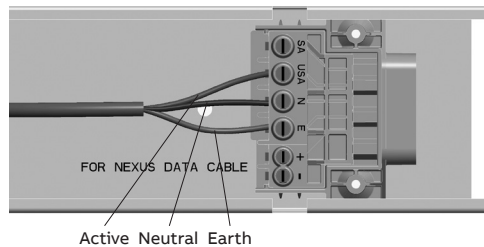

Figure 1: Quickfit terminal block connection
3. Run the cables in the ceiling or wall space as appropriate or surface mounted in conduit and through the cable hole into the bracket. Strip, connect and terminate the cables as indicated in figure 1. Ensure that the double insulation of the cable/s passes completely into the terminal block enclosure so that no single insulation is exposed when the cover plate is in place. The hole plug set includes a suitable bush to mechanically protect the cable as it passes through the opening in the mounting bracket. Likewise, the single insulation of the conductors should run right up to the metal edge of the terminals leaving no bare conductors outside of the terminals. Be careful with multi-strand conductors that all of the strands are twisted together before insertion into the terminal. Any stray strands that inadvertently come into contact with their neighbouring terminal of the metal frame of the fitting will cause undesirable results when the fitting is powered.